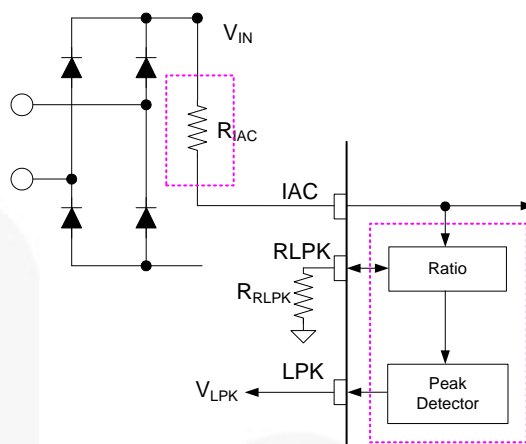

Figure 29. Relationship of $V_{IN.PK}$ to V_{LPK}
The relationship of $V_{IN.PK}$ to V_{LPK} is shown in Figure 29. The peak detection circuits detect the V_{IN} information from I_{AC} . R_{LPK} sets the ratio of V_{IN} to V_{LPK} via a resistor R_{RLPK} , as described in Equation (8). The target value of V_{LPK} is one percent (1%) of V_{INpk} . The maximum V_{LPK} cannot be over 3.8 V when system operation is at maximum AC input.